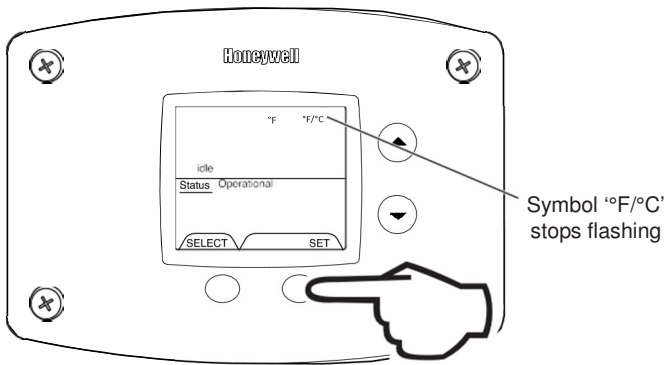

Fig. 23
- Press 'SET' button to confirm °F or °C format. F°/ °C will stop flashing. Setpoint display will appear in the format selected (°F or °C) in 10 seconds (Fig. 23).